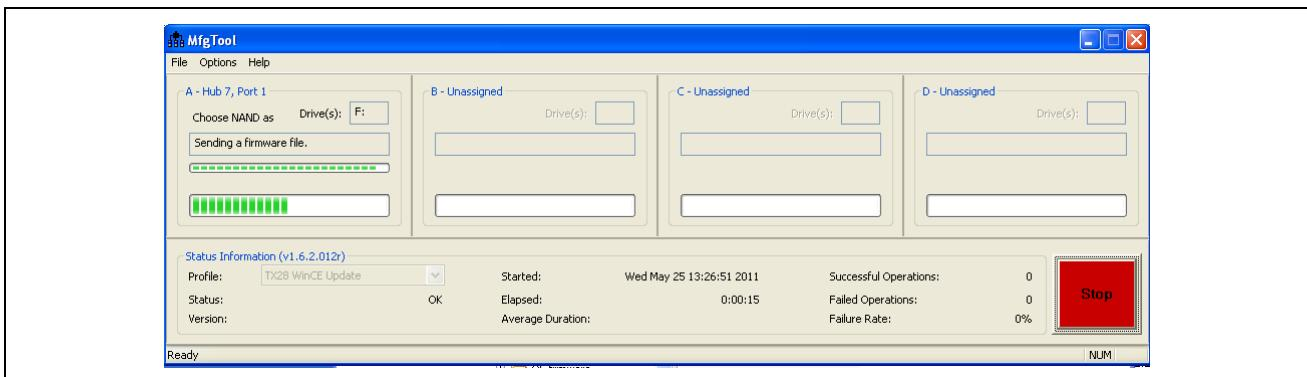

Figure 9      MfgTool Busy
- 14 Click on the green Start button. The sensor node software should start loading as seen by the progress bars in Figure 9.